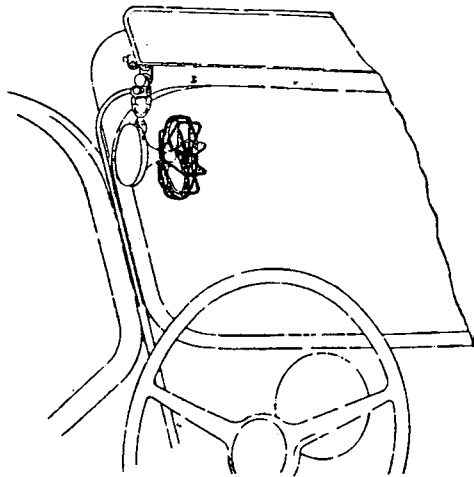

Fig. 1
1. The Trico Vacuum Fan is packed with three types of mounting brackets, two for mounting the fan at the side or above the windshield (as shown in Figs. 1, 3, 4); one for attaching to the steering column (shown in Fig. 2, insert #1). It is suggested that the header or dash type of installation be adopted wherever possible in order to more fully utilize the cooling features of the fan in warm weather. The header bracket may be slipped under the sun visor or attached to the side or top of the windshield by means of the self-tapping screws provided. When the steering post mounting is used, simply use the clamp provided as shown in Fig. 2.